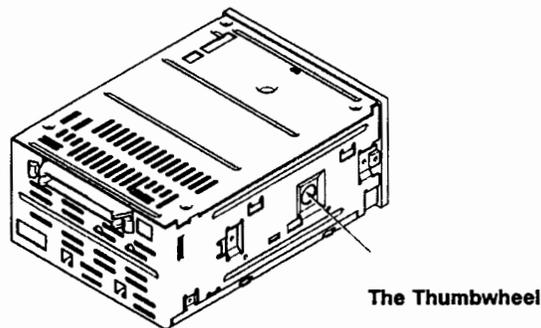

Figure 4-5. Ejecting the cassette manually
6. Try ejecting the cassette by pressing the **UNLOAD** button. If this does not work, switch the power off and use the thumbwheel on the side of the tape drive module to eject the cassette manually (see **figure 4-5**).